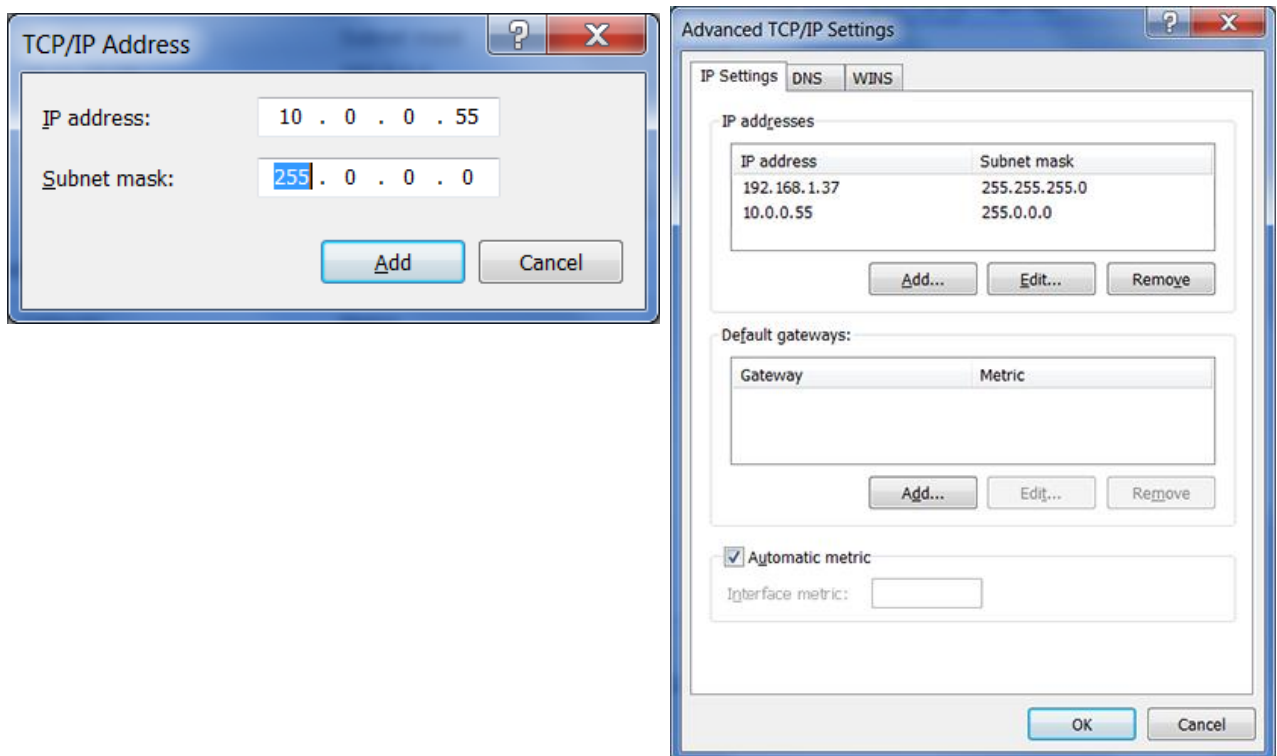

Figure 3: Entering the IP address for IRMA MATRIX as a second entry
- On the "IP settings" tab in the "IP address" area click on the "Add..." button. The input mask "TCP/IP Address" opens, see Figure 3 on the left.